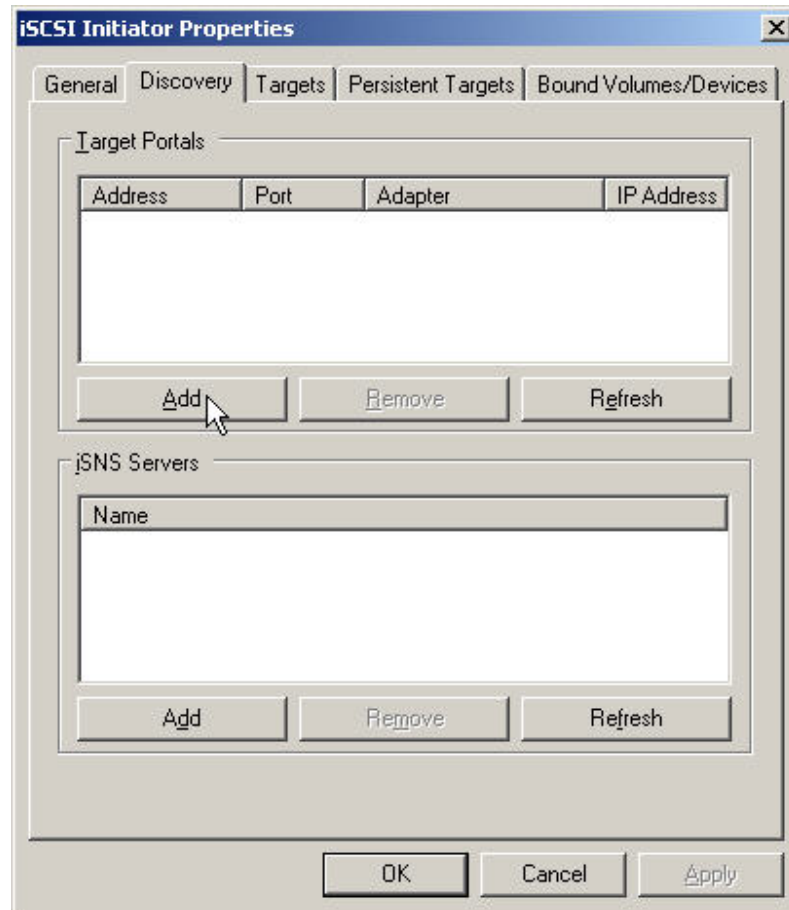

Figure E.14
9. Enable switch Trunking function of port 21 and 23. Below is an example of Dell PowerConnect 5324. Go to Figure E.14 for next step.